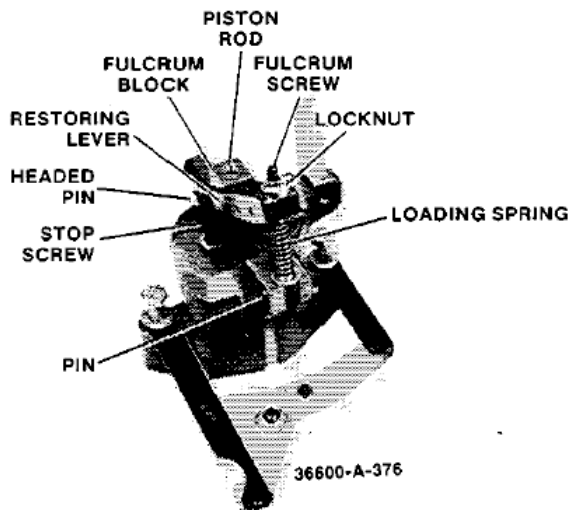

Figure 5-25. Speed Setting Cylinder
30. Speed-Setting Cylinder Disassembly (Figure 5-25).